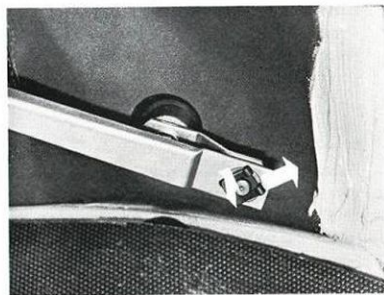

Fig. 3-138. Removing locking for drive link
1. Remove the drive link from the lever on the wiper motor after having first removed the lock device, see Fig. 3-138.